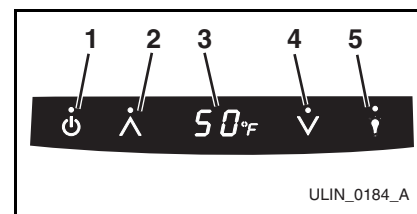

Figure 5
1. Press and release either the WARMER icon (**Figure 5, 2**) or COOLER icon (**Figure 5, 4**) to put the controller in the SET TEMPERATURE mode. The °F symbol (**Figure 5, 3**) will begin to flash.